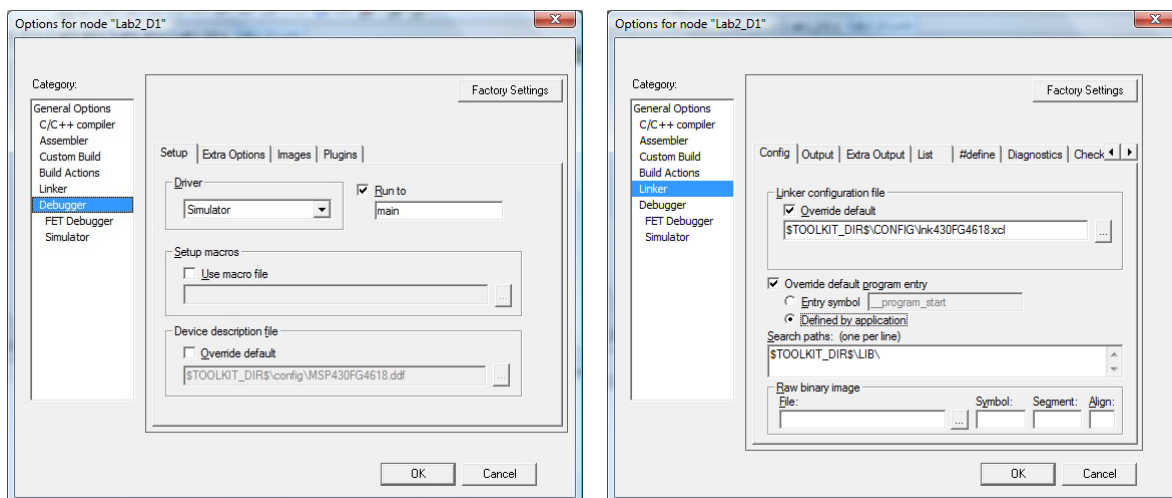

Figure 2. Debugger category.
Step 1: Go to Project>Options and select Debugger category. In the Driver box, choose Simulator (Figure 2). Click OK. Here we use absolute assembly code (our program defines directly the location of code and data). Consequently, we need to let linker know to use absolute assembly code (set settings as shown in Figure 2).